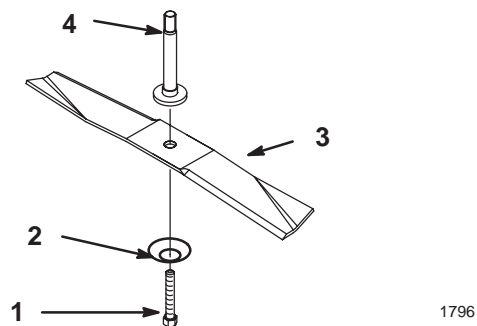

Figure 28
- Install the blade, curved washer, and blade bolt (Fig. 28).